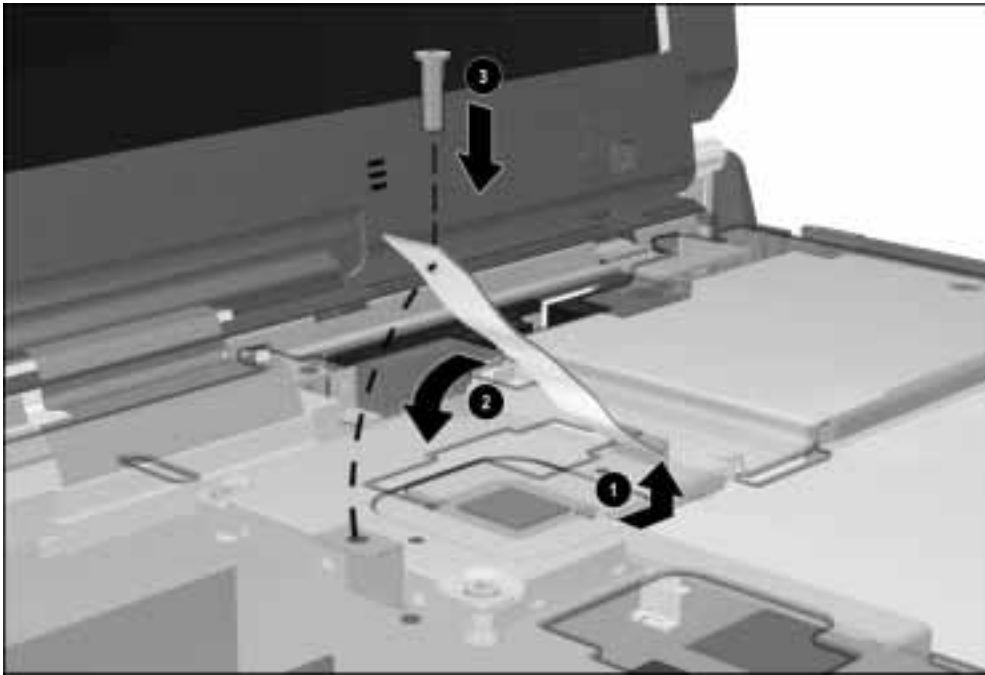

Figure 5-24. *Installing the Heatpipe Mount Leaf Spring*
2. Insert the notched end of the heatpipe mount leaf spring ❶ into the slot on the thermal catch bracket on the processor (Figure 5-24).
3. Swing down the left side of the heatpipe mount leaf spring ❷.
4. Install the screw that secures the heatpipe mount leaf spring ❸.